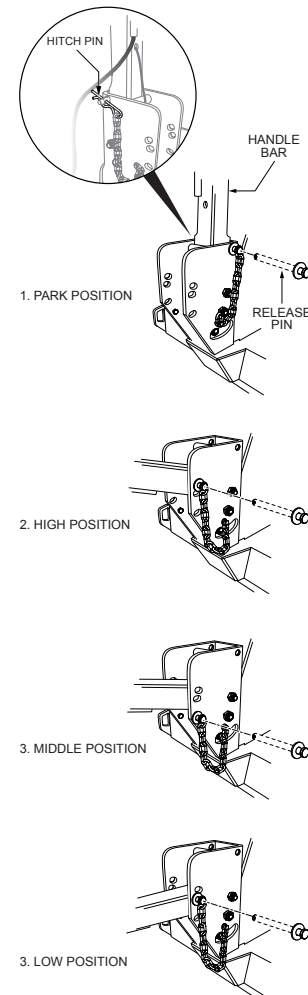
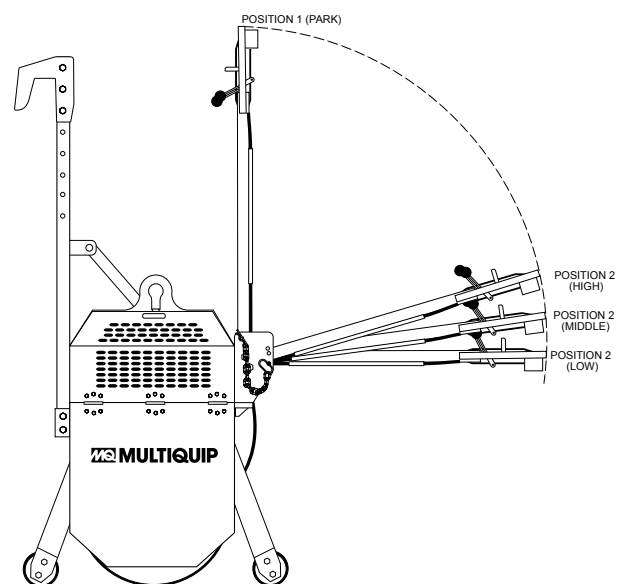

Figure 16. Handle Positions 1
Figure 17. Handle Positions 2
2. Once released pin has been removed, position handle bar to desired height (Figure 16 and Figure 17).